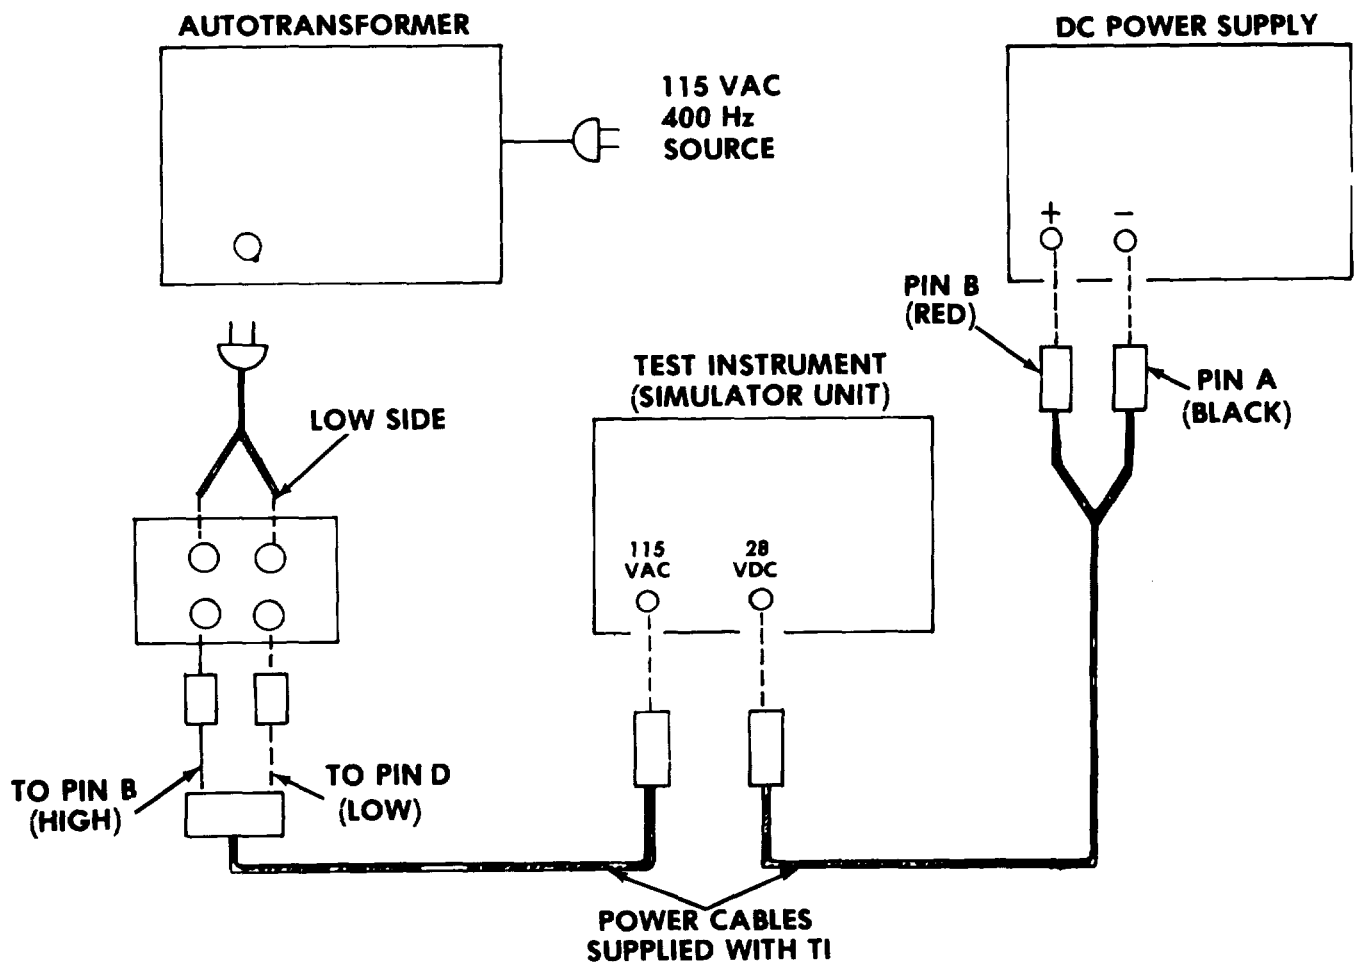

Figure 4-1. Power Supply - Equipment Setup.
- (1) Set ON-OFF-SIM ONLY switch to OFF.
- (2) Connect equipment as shown in Figure 4-1.
- (3) Adjust Autotransformer output for 115V.
- (4) Connect digital voltmeter to dc power supply using